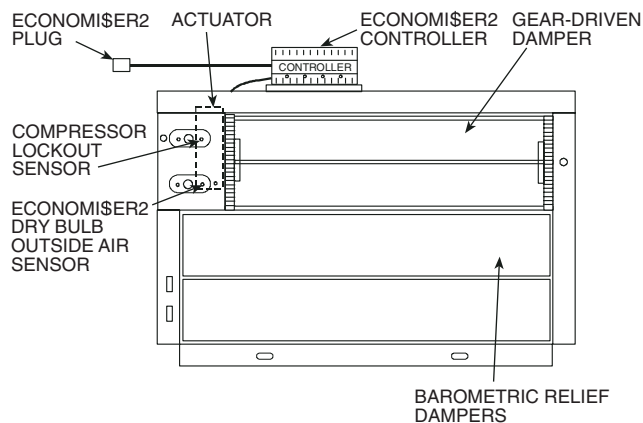

Fig. 16 — EconoMi\$er Component Locations
OPTIONAL ECONOMISER2 — See Fig. 16 for EconoMi\$er2 component locations.
2. The box with the EconoMi\$er2 hood components is shipped in the compartment behind the EconoMi\$er2. In order to remove the box, the EconoMi\$er2 controller must be temporarily moved. This step does not need to be performed on an EconoMi\$er2 with 4 to 20 mA control as there is no controller. The entire EconoMi\$er2 does not have to be removed to retrieve the hood box. The EconoMi\$er2 controller is mounted on top of the EconoMi\$er2 in the position shown in Fig. 16.